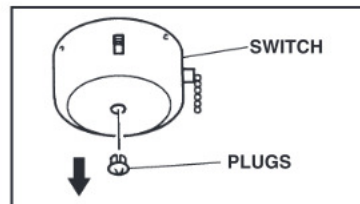

FIG. 17
Step 1. Remove the plug from the switch housing. (Fig.17).